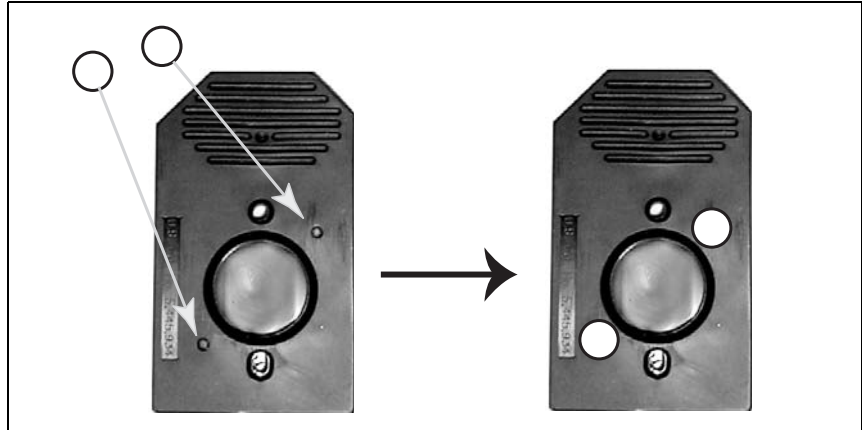

Figure 4.8
1. Cover the septa on each array with a Tough-Spot (Figure 4.8).
7. Cover each septa with a Tough-Spot (Figure 4.8 on page 127).